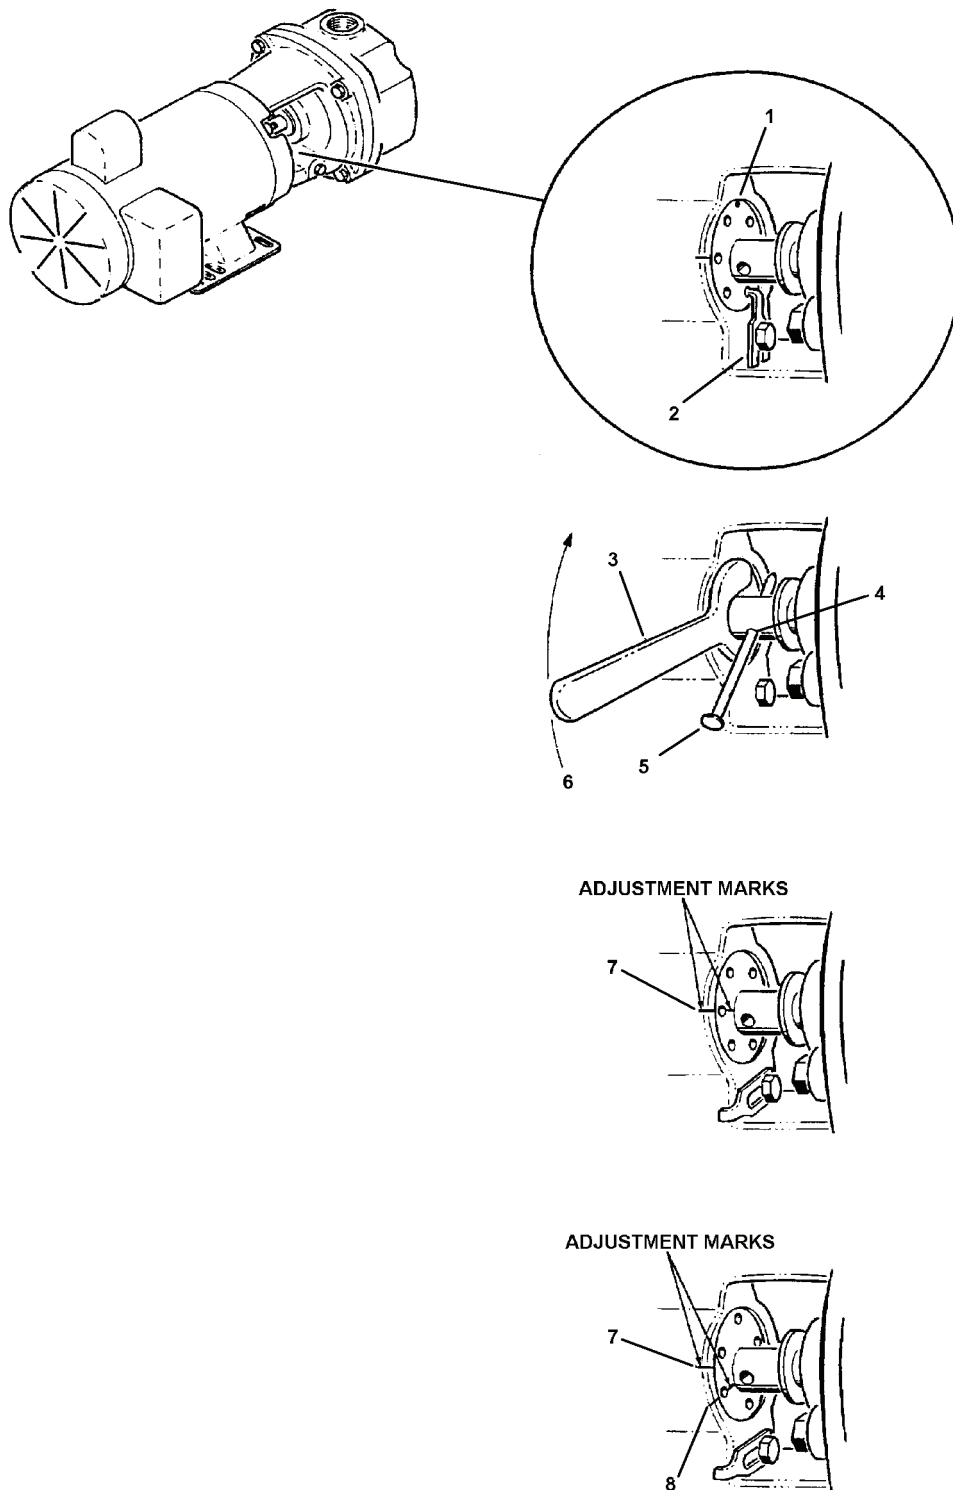

Figure 2-20. Flow Pump Impeller Adjustment.
- a. Loosen slide lock (2, Figure 2-20) and rotate away from adjusting screw (1).
- b. Using a spanner wrench (3) or appropriate punch turn adjusting screw (1). At the same time, rotate shaft back and forth with a common nail (5) or other object placed through the hole provided (4).
- c. Rotate adjusting screw (1) in a clockwise direction (6). A drag will be felt as the impeller comes into contact with raceway. At this point, make a mark (7) on pump frame and adjusting screw (1) (across one of the spanner wrench holes).
- d. Rotate adjusting screw (1) in the opposite direction (counterclockwise) to back off impeller until no drag is felt. Make a second mark (8) on the pump frame inline with the adjusting screw mark. The correct clearance may be obtained by moving the adjusting screw approximately one half the distance between mark (7) and mark (8).
- e. Lock adjusting screw in place by inserting slide lock (2) tab in the nearest spanner wrench hole of the adjusting screw (1) and tighten lock (2) screw.